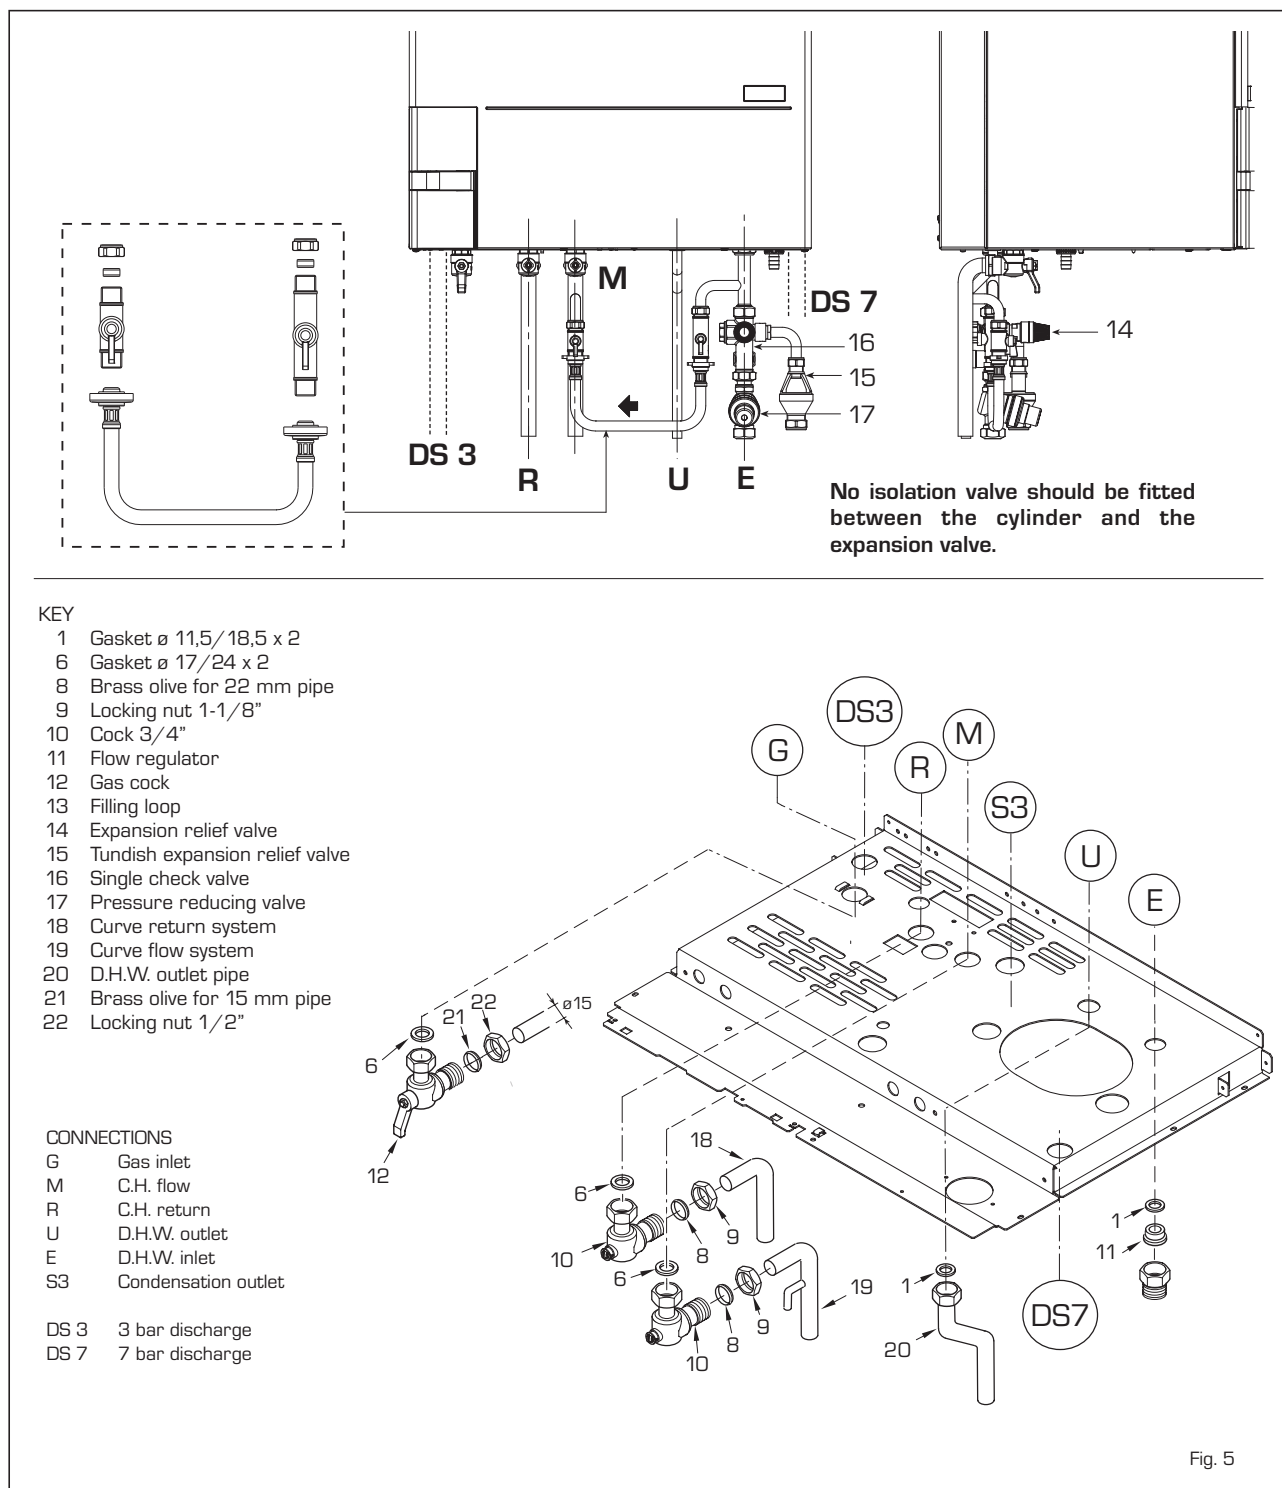

Fig. 5
2.3 HOW TO FIT C.H. AND D.H.W. FITTINGS AND GAS COCK (fig. 5)
Fit the supplied; pressure reducing valve (17), check valve (16), and expansion relief valve assembly (14) with its associated tundish (15), ensure that on completion of the installation that the tundish is visible to the user, in the D.H.W. supply to the appliance, the flow from this assembly should be connected to the cold water inlet (E) via the flow regulator housing supplied. Ensure flow regulator (11) and gasket (1) supplied, are fitted in the flow regulator housing. See fig. 5 and fig. 6 for installation details. It is important that no isolating valve is fitted between the expansion relief valve and the inlet to the D.H.W. tank. Any additional D.H.W. drain down tap fitted should be positioned as low as possible to ensure that at least 80% of the D.H.W. tank's capacity can be drained. If installed in a Hard Water area, then a suitable device should be fitted to treat the mains supply to the appliance (Contact your Water Distribution Company for advice on suitable devices). Fit the quarter bend (2) to the hot water outlet (U) using the gasket supplied (1).
- GAS CONNECTION (C)
- c) The appliance is equipped with an internal by-pass that operates with system heads (H) greater than 3 m. The maximum flow through the by-pass is about 300 l/h. If thermostatic radiator valves are to be installed, at least one radiator should be without a thermostatic valve (usually the bathroom radiator).
- d) A sealed system must only be filled by a competent person using the filling loop as shown in fig 5.